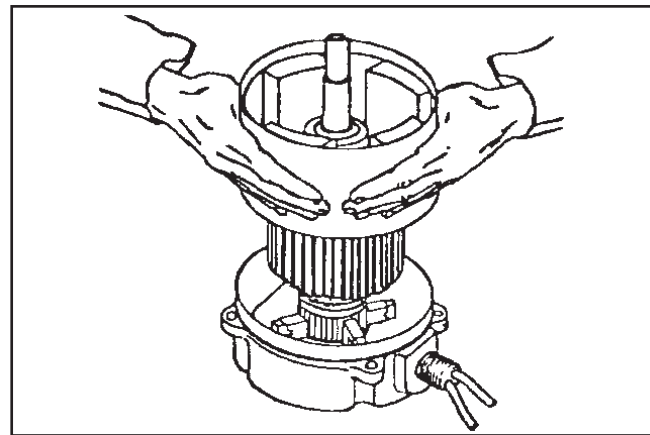

Figure 7.17—Assembly Procedure
7. With the armature assembly secured in a vertical position, place the complete stator assembly down and securely into position on the commutator cover (see figure 7.17).
Note: Be careful during this procedure. There is a strong magnetic attraction between the stator assembly and the armature. This tends to pull the stator assembly rapidly downward. It is important to have a firm grasp on the stator assembly, making sure fingers are free from the space between the assembly and commutator cover (figure 7.17).